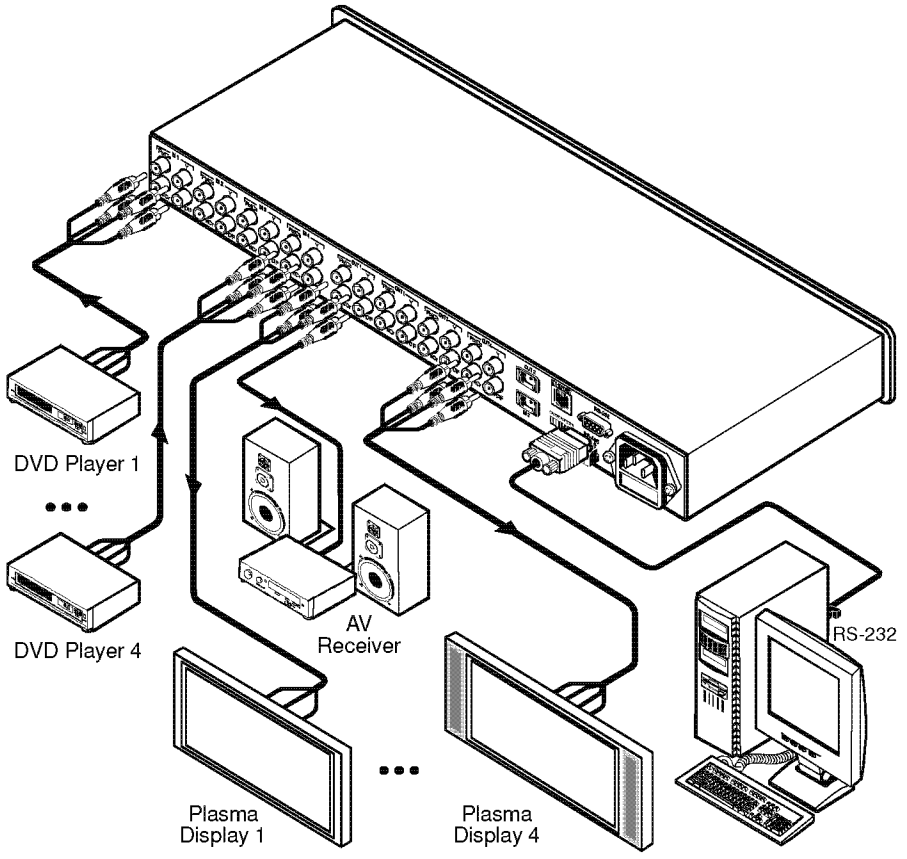

Figure 3: Connecting the VS-44HC 4x4 Home Entertainment Matrix Switcher
To connect the **VS-44HC**, as the example in Figure 3 illustrates, do the following1:
5. Connect the power cord7 (not shown in Figure 3).